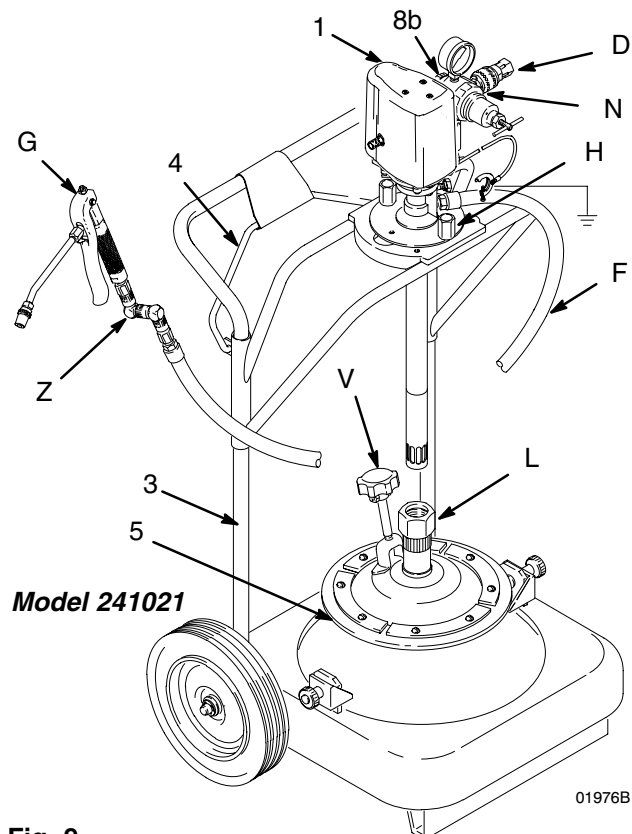

Fig. 9
1. Assemble the truck (3), and install the pump support (4) on the truck handle. See Fig. 9 and the parts drawing on page 15.
2. Install the pump (1) on the pump support (4), and secure it with the two gun holders (H).
3. Install the inductor plate (5) on the pump intake, and secure it with the nut (L).
4. Place an open container of grease on the truck base, and prepare the surface of the grease (see page 8). Center the inductor plate (5) over the container, and lower it into the container. Open the vent handle (V), and leave it open until grease appears at the opening, then close it.
5. Connect the hose (F) to the pump fluid outlet, and assemble the z-swivel (Z) and gun (G) to the hose.
6. Connect the nipple (N) to the pump air inlet or air regulator (8b) inlet, whichever is applicable. Connect the quick-disconnect coupler (D) to the air supply hose.